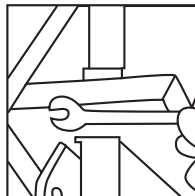

Fig. 5
3. If the table is not at 90° loosen the hex bolt at the bottom of the table and then using the hex key adjust the hex screw positioned at the top of the table. Adjust the hex screw until the table is at 90° to the belt. (Fig. 5 & 6)